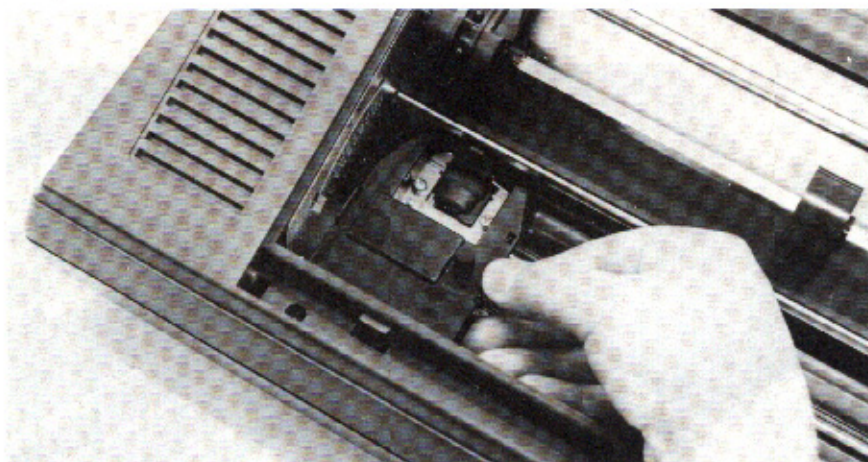

**Figure 4**
3. While turning the cassette knob in the direction indicated by the arrow, press downwards on the right hand side of the cassette until it locates down into the right hand latching-clip (see Figure 4).